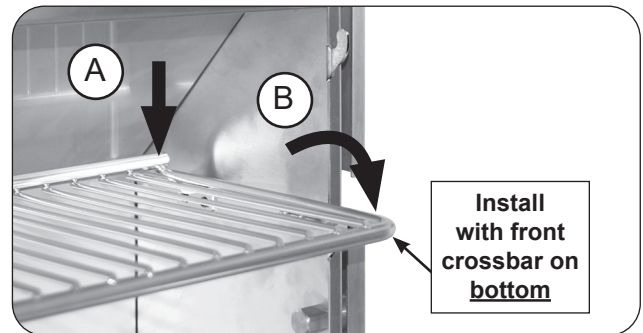

Fig. 29-2 Place warming rack for use
2. With the warming rack oriented as shown, carefully rest the rear of the rack onto the rear support plates (see Fig. 29-2, A), then lower the warming rack arms onto the lower hooks for use (see Fig. 29-2, B).